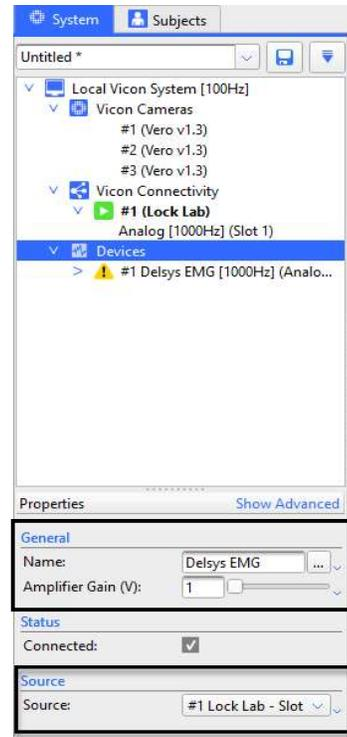

Figure 18: Adding in the Lock+/Lab Source in Vicon Nexus.
- Select Analog EMG and determine an appropriate name for your system within the Properties. Then navigate to *Source* within the *Devices* tab to find and select the correct Lock+/Lab slot (Figure 18).